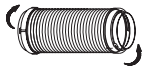
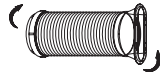

Fig.18
Fig.19
1. Install the window Exhaust adaptor B onto the exhaust hose as shown in Fig.18. or Fig.19. Refer to the previous pages for window kit installation.